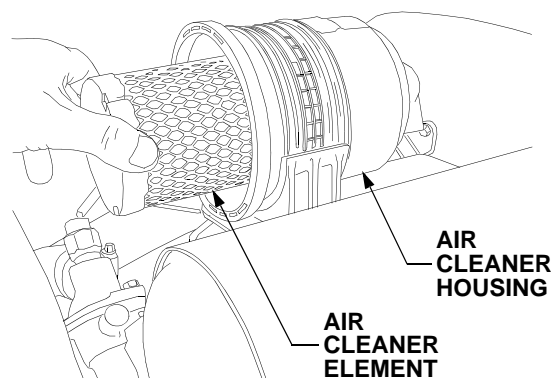

Figure 55
- Pull the air cleaner element from the housing. See Figure 55.